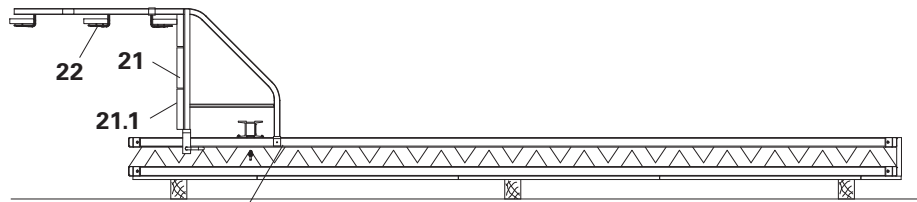
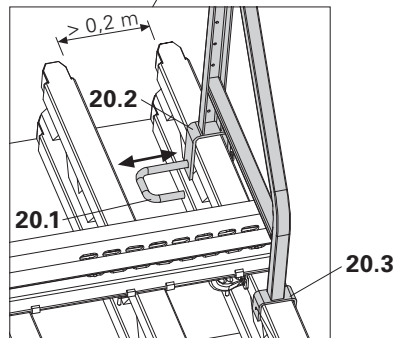

Fig. B2.02
Fig. B2.02a
- (Fig. B2.02a)
3. Fix planking (21) across complete bracket width from below using Torx 6 x 40 (21.1).
4. Mount and secure guardrails (22) including toe board and, if necessary, lateral guardrails.
- (Fig. B2.02)